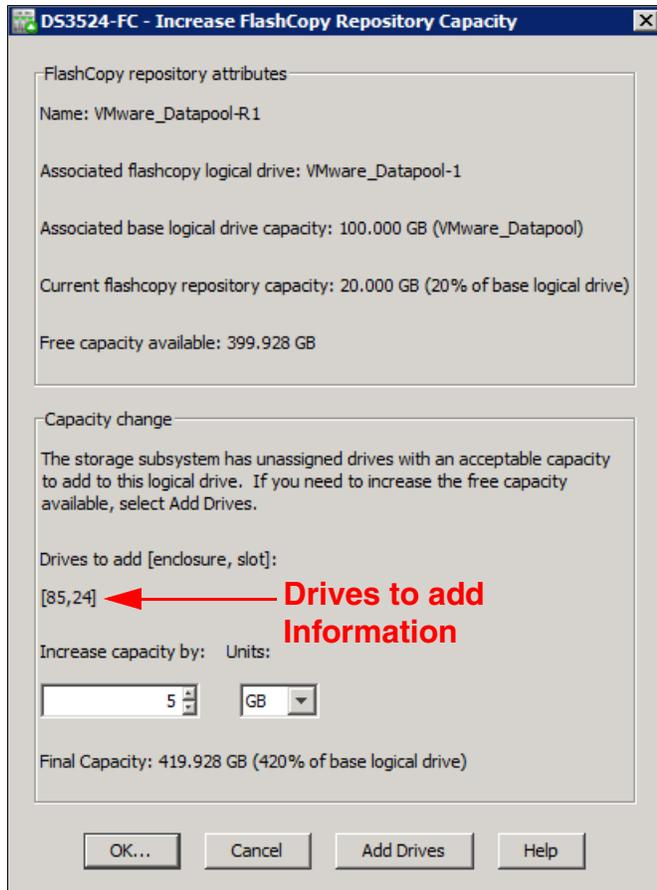

Figure 2-37 Increase FlashCopy Repository capacity: Added drives
- iv. Select **Add**. The **Add Drives** window is closed. Check the “Drives to add [enclosure, slot]” section to ensure that the correct drives are added. See Figure 2-37.